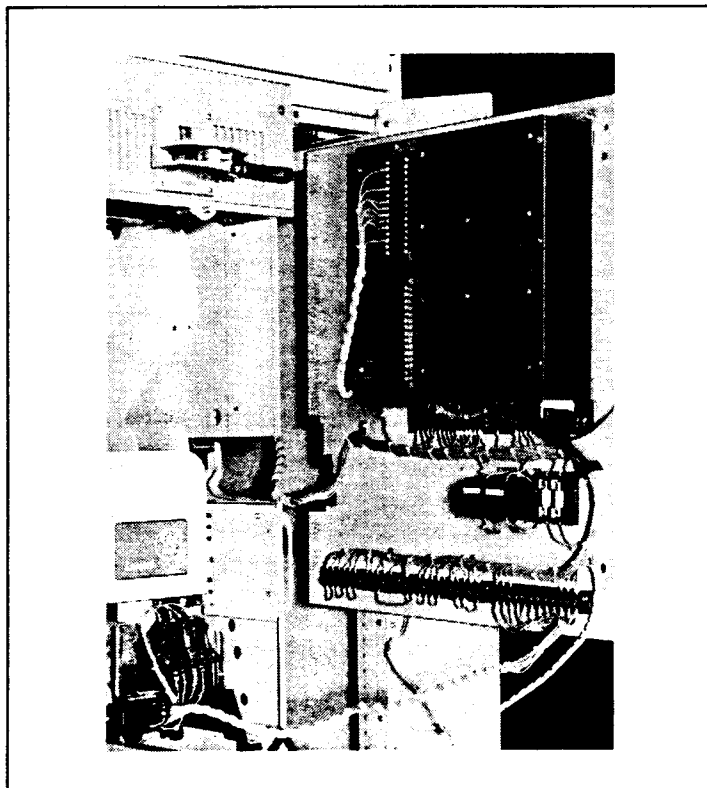

Figure 1.1 — IQ-2000 Installed in Ampgard Enclosure
1.0 General — The IQ-2000™ is a microprocessor-controlled, motor command system that is made available in a single, integrated package. It is designed for use with the Ampgard® Motor Control Assembly, and other types of starters. (See Figure 1.1.)